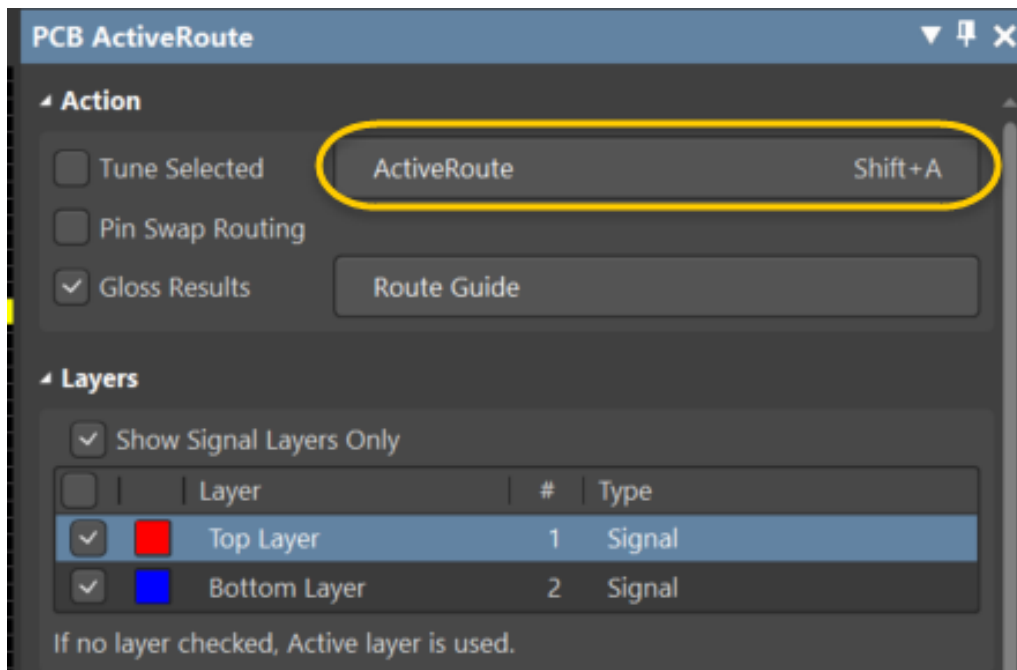
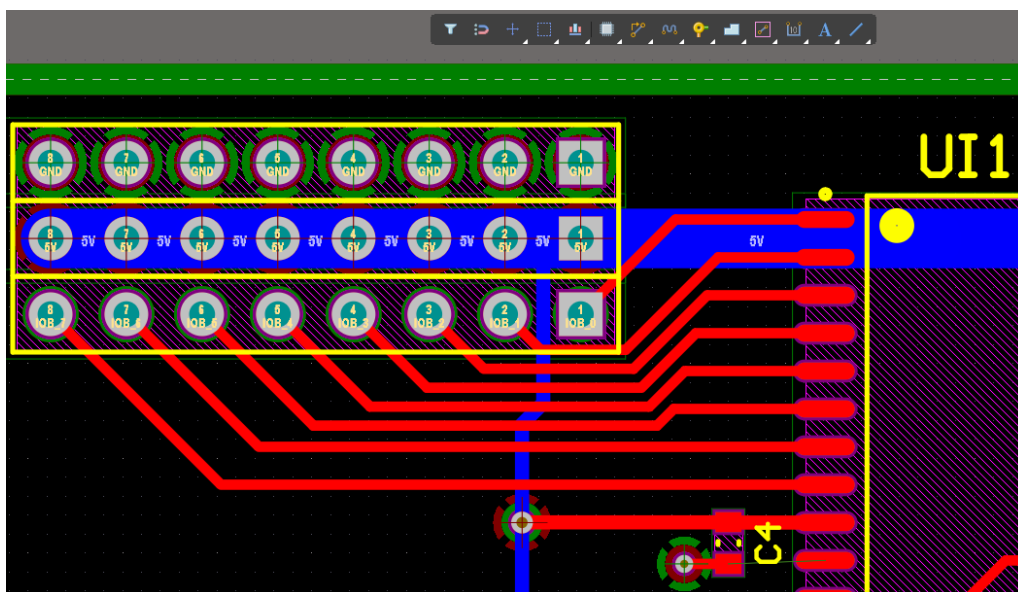

Figure 20. Click the ActiveRoute button to start the routing
Figure 21. ActiveRoute completed
44. Click the **ActiveRoute** button in at the top of the panel as shown in Figure 20, or select **Route » ActiveRoute**. The routes will be completed as shown in Figure 21.